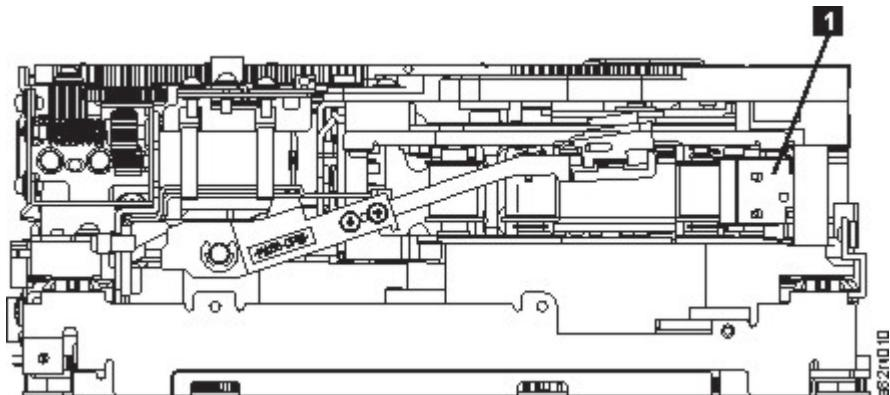

Figure 128. Leader Block Assembly (LBA)
- Rotate the threader motor worm gear (4 in Figure 127 on page 258) to turn the threader mechanism gear (6 in Figure 127 on page 258) counterclockwise. This action moves the LBA out of the cartridge and past the read/write head. Stop this rotation when the LBA is near the tape guide roller nearest the rear of the drive that is shown as 1 Figure 128 on page 259.